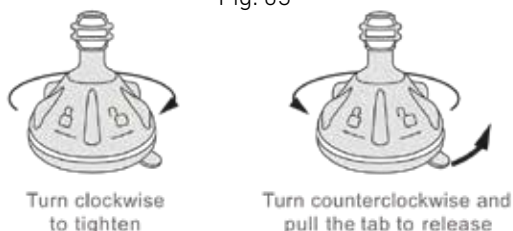

Fig. 04
4. Keep the suction cup pressed and turn the lock to secure the mount (Fig. 04).